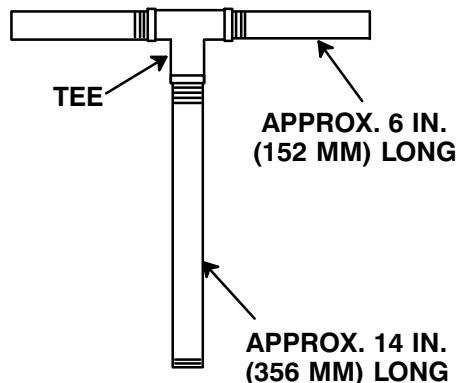

Figure 8. Rotating Assembly Tool
*An optional disassembly tool is available from the factory. If the tool is used, follow the instructions packed with it. A similar tool may be assembled using 1/2-inch pipe (schedule 80 steel or malleable iron) and a standard tee (see Figure 8). All threads are 1/2-inch NPT. **Do not pre-assemble the tool.***